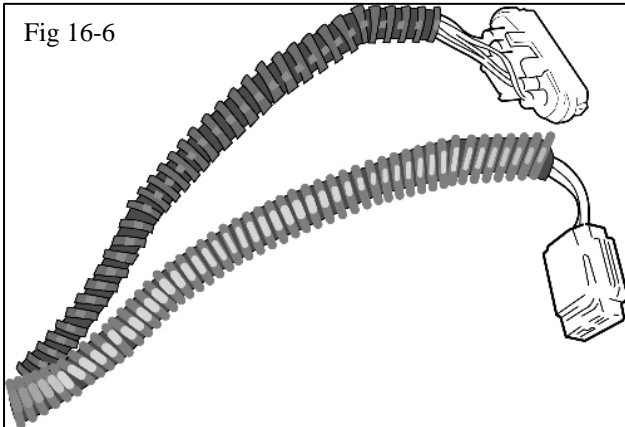

Fig 16-6
- (f) Install a 9" length of the supplied 3/8" convoluted tube (B7) over the exposed throttle motor wires and secure with electrical tape. Re-install the original wire loom wrap over the air injection wires and secure with electrical tape (Fig 16-6).